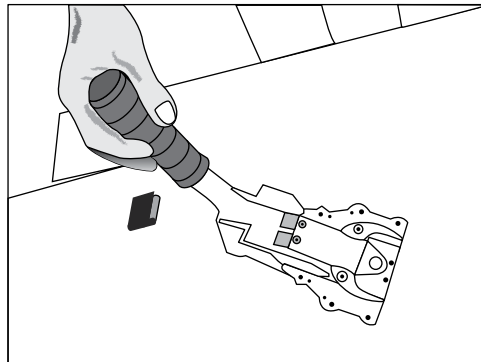

Figure 14
2. Remove the magazine assembly. (See Figure 14)